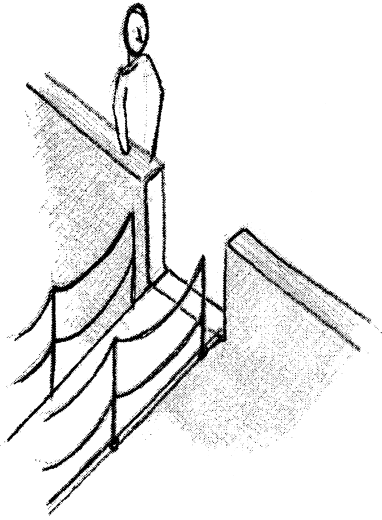

Figure 13
- (d) In the space below and on page 39, design a pneumatically controlled barrier that will close the space once the final passenger has boarded. The barrier will be located in the opening in the side walls as shown in **Figure 13**.